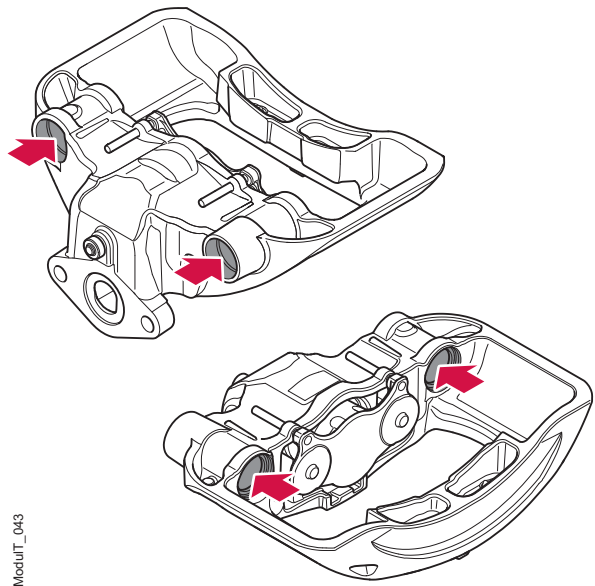

Figure 57. Clean the calliper bearing/bushing mating surfaces
1. Clean the bearing/bush/bellows sealing surfaces of the calliper to ensure they are free from dirt, moisture, corrosion and damage. See figure 57.